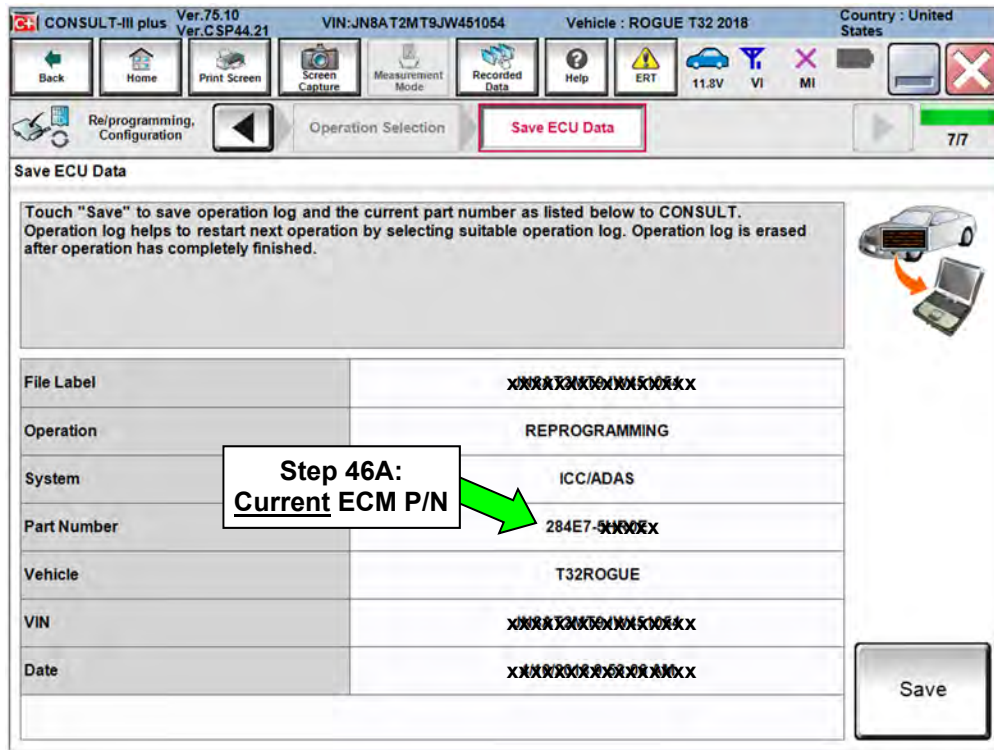

Figure 27
46. When you get to the screen shown in Figure 27, confirm that a reprogram is available as follows.